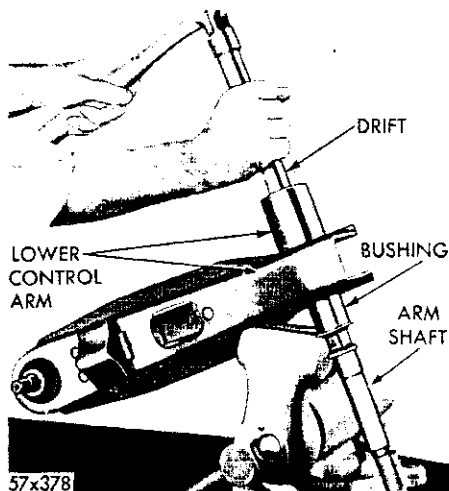

Fig. 13—Removing the Lower Control Arm Shaft Assembly
(1) Place the lower control arm in an arbor press (with torsion bar hex opening up). Press the shaft and bushing out of the control arm, using a brass drift (Fig. 13).